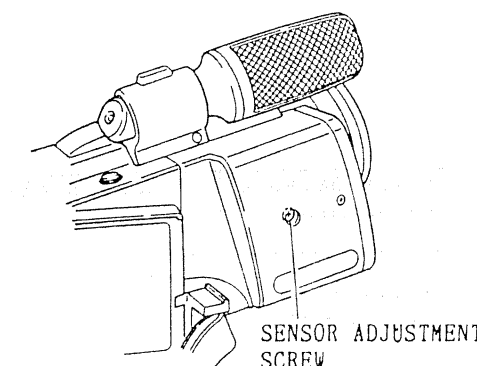

Fig. 4-14
Adjustment using the oscilloscope (Fig. 4-14)
1) Sensor Position Adjustment (Fig. 4-14)